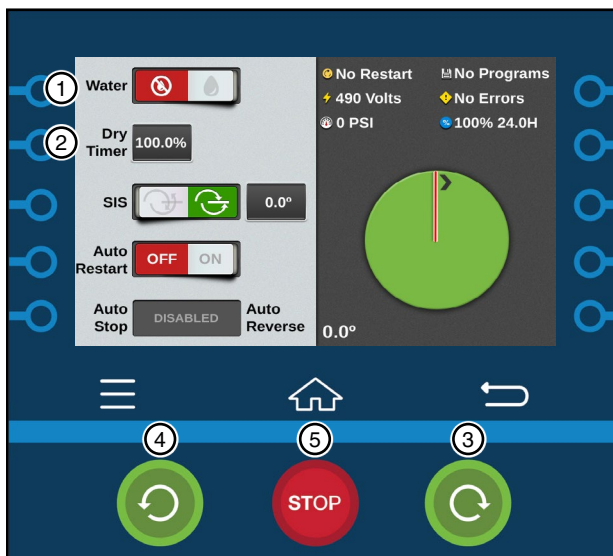

Figure 56-2 1. Water Off 2. Dry % Timer 3. Start Forward 4. Start Reverse 5. Stop
1. Push the **Water** button on the Main Screen to turn the water off. Refer to Figure 56-2.